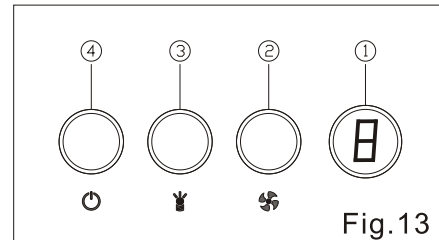

Fig.13
1. Turn the three nuts at the front of bottom board. ( Fig.13)
Operate switches ( Fig.13 )